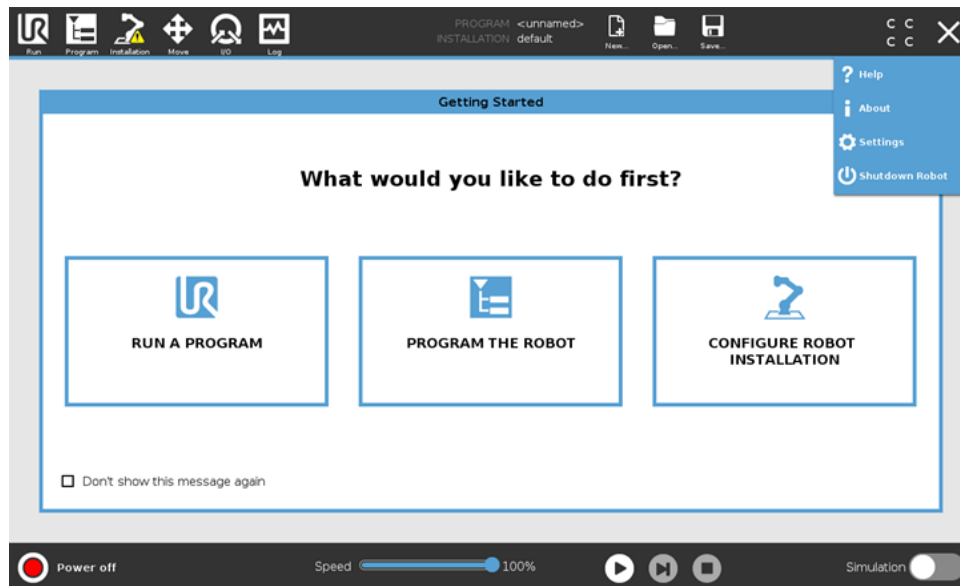

Figure 1: Hamburger Menu
1. To install URCap, tap the Hamburger icon () on the top right from anywhere in the Polyscope as shown in Figure 1.